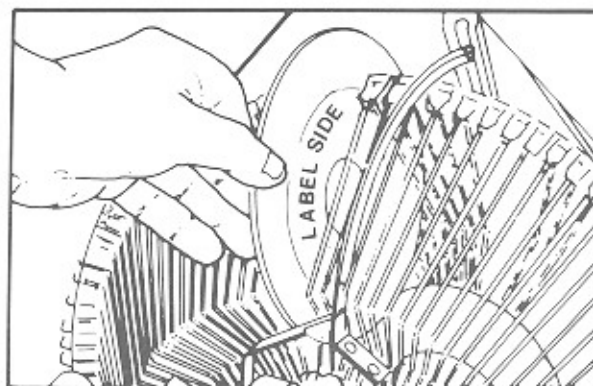

Figure 3-6. Changing a Disc
4. Slide the old CD out of the slot and slide the new CD into the slot (see figure 3-6) with the label to the right. Write the disc number on a note pad.